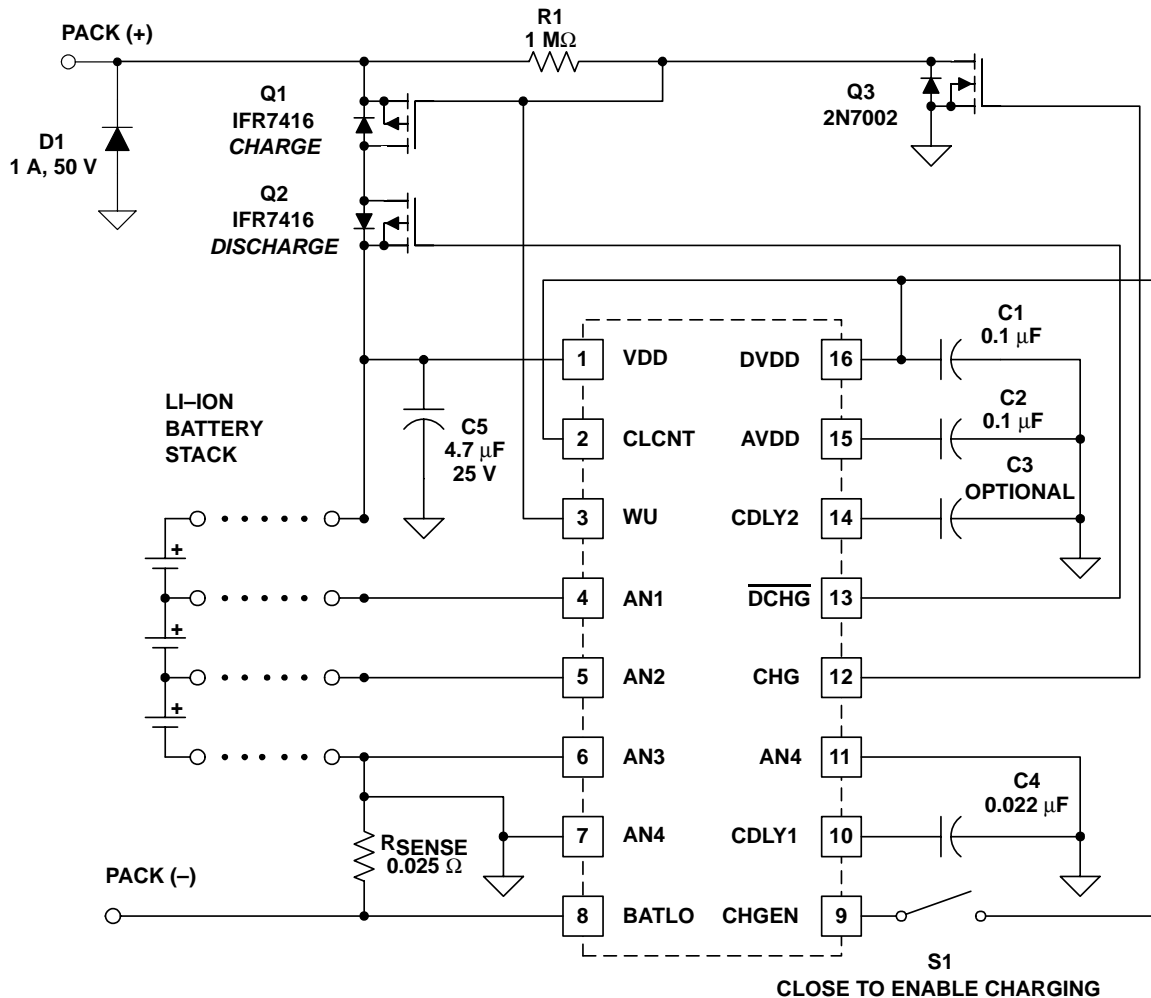
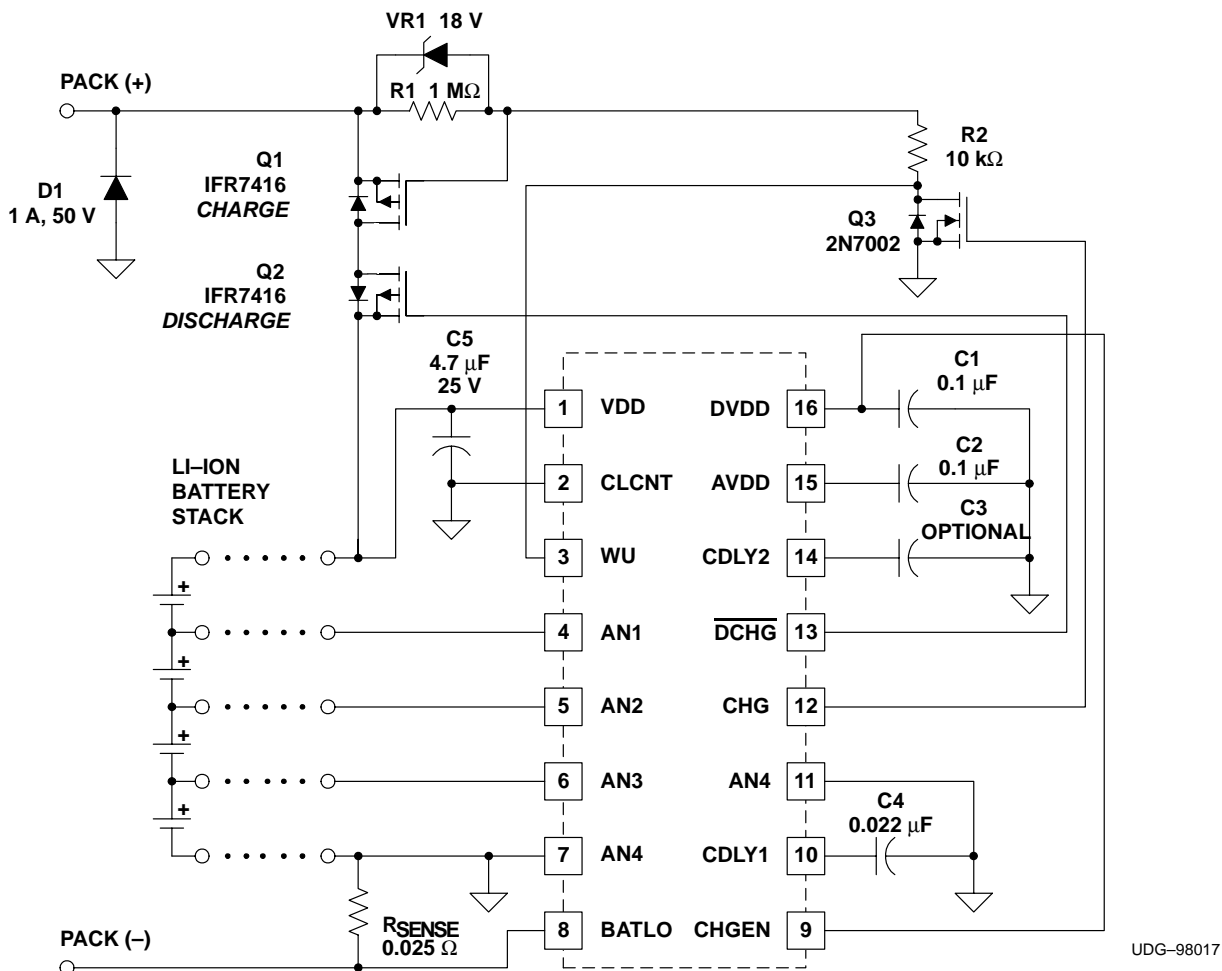
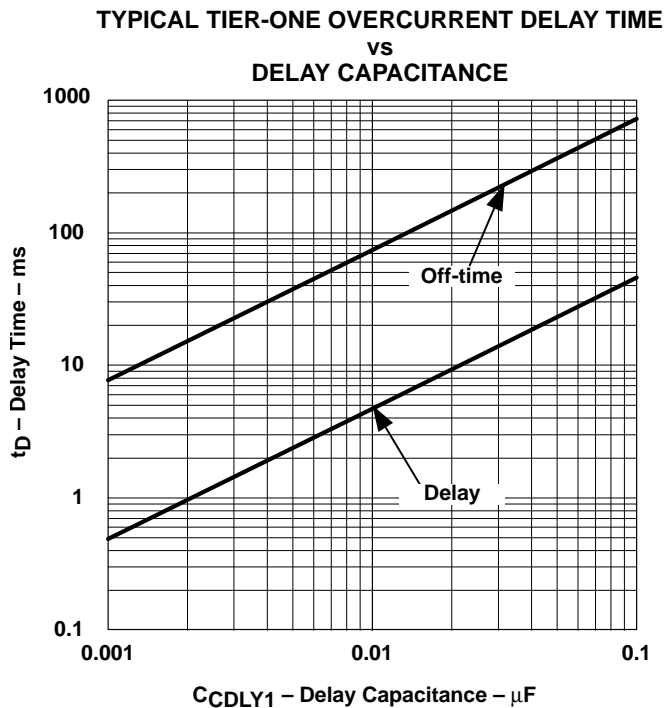

Figure 1. Three-Cell Lithium-Ion Protector Application Diagram
Figure 2. Four-Cell Lithium-Ion Protector Application Diagram
Figure 4
The UCC3957 provides complete protection against overdischarge, overcharge and overcurrent for a three- or four-cell lithium-ion battery pack. It uses a *flying capacitor* technique to sample the voltage across each battery cell and compare it to a precision reference. If any cell is in overvoltage or undervoltage, the internal-state machine takes the appropriate action to prevent further charge or discharge. High-side P-channel MOSFETs are used to independently control charge and discharge current. Figure 1 shows a three-cell lithium-ion protector application diagram with the optional charge-enable switch. In this application, the diode D1 protects the MOSFET Q2 from inductive kick at turn-off.
Figure 2 shows a four-cell protector with optional components to protect the charge FET from excessive gate-to-source transients. In this application, the Zener diode VR1 and the resistor R2 are optional. They protect the MOSFET Q1 from excessive open-circuit charger voltage. Diode D1 protects MOSFET Q2 from inductive kick during turn-off.
The use of a small N-channel level shifter (Q3 in the application diagrams) allows the IC to interface with the high-side charge FET (Q1), even in the presence of a runaway charger. Only the drain-source voltage rating of the charge FET limits the charge voltage that the protection circuit can withstand. The wakeup (WU) pin is designed to handle input voltages greater than VDD, as long as the current is limited. In the examples shown, the charge FET's gate-source resistor (R1) provides this current limiting. Note that in Figure 2, a resistor and zener (R2 and VR1) have been added to protect Q1 against any possibility of a voltage transient exceeding its maximum gate-source rating.
The first-tier threshold is 150 mV nominal, corresponding to 6 A using a .025- $\Omega$  sense resistor as shown in the examples of Figure 1 and Figure 2. If the pack-discharge current exceeds this amount for a period of time, determined by the capacitor on the CDLY1 pin, it then enters the hiccup mode. The first-tier hiccup duty cycle is fixed at approximately 6%, minimizing power dissipation in the event of a sustained overload. The absolute on and off times of the discharge FET (Q2) are controlled by the CDLY1 capacitor. A curve relating the delay (on time) to this capacitor value is shown in Figure 4. The off time is approximately 17 times longer than the on time.
In the examples shown in Figure 1 and Figure 2 (with CDLY1 = .022  $\mu$ F), the first-tier overcurrent on time is approximately 10 msec, while the off time is approximately 170 msec, resulting in a 5.9% duty cycle for currents over 6 A (but less than 15 A). If no CDLY2 capacitor is used, the second-tier on time is less than 200  $\mu$ sec (assuming no stray capacitance), resulting in a duty cycle of about 0.1% for currents over 15 A. If CDLY2 = 22pF, the typical on time for currents exceeding 15 A is approximately 800  $\mu$ sec, resulting in a duty cycle of 0.5%.
In the case of a short circuit, the  $di/dt$  that occurs when the discharge FET is turned off can result in a significant voltage undershoot at the pack output due to stray inductance. This undershoot can potentially exceed the breakdown voltage rating of the discharge FET. A clamp diode (D1 in Figure 1, Figure 2, and Figure 3), or a capacitor across the pack output, protects against this possibility. A diode also provides protection from a reverse-polarity charger.